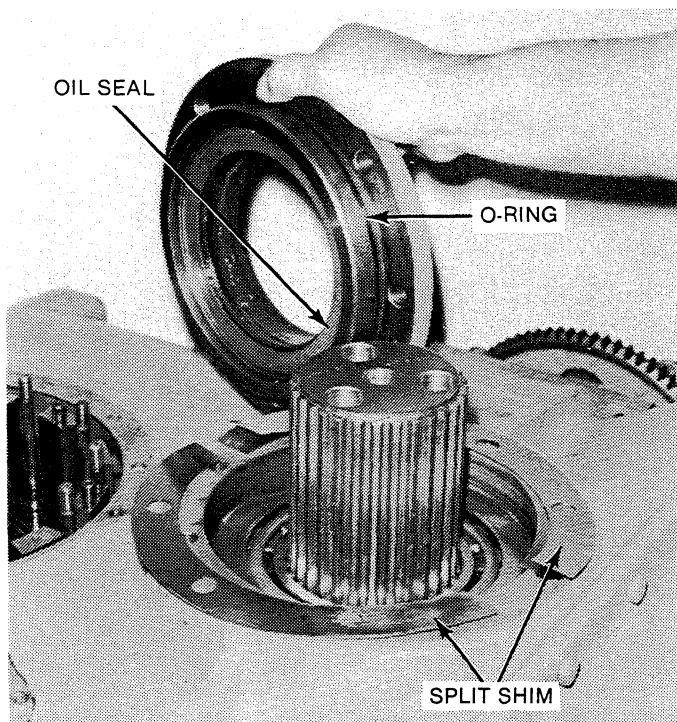

Figure 6-23. Bearing Retainer Removed.
4. Remove rubber seal (Figure 12-5, 13) from the retainer (2). See Figure 6-23.
5. If necessary, remove oil seals (Figure 12-5, 11) from the bore of the retainer. See Figure 6-23.